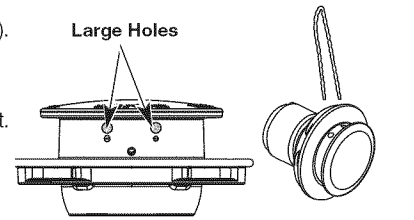

Fig. 23
- Insert both ends of the line through the large holes in the side of the cutting head (Fig. 23).